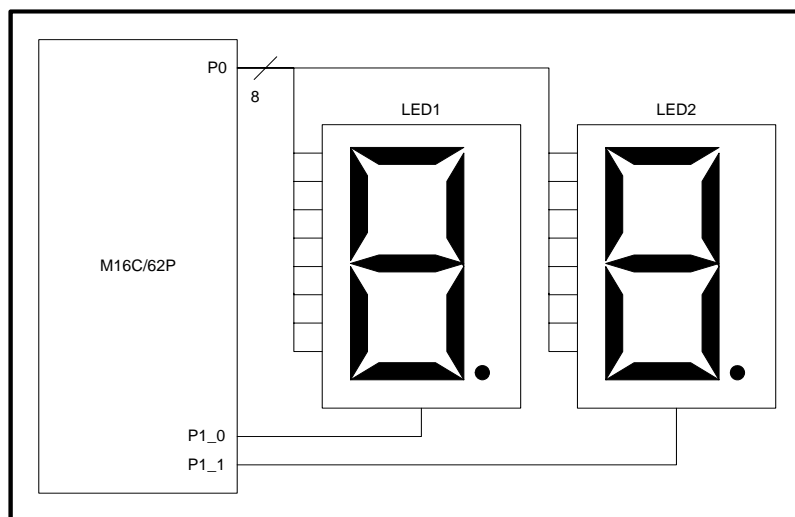

Figure 1. LED Block Diagram (1)
- B) The DIGIT output switches between the active LED1 and LED2, shown in Figure 1 on page 2, every 1 ms. A variable digit controls the DIGIT output. Timer A timer mode is used for 1-ms measurement.
Figures 1 and 2 show LED block diagrams.